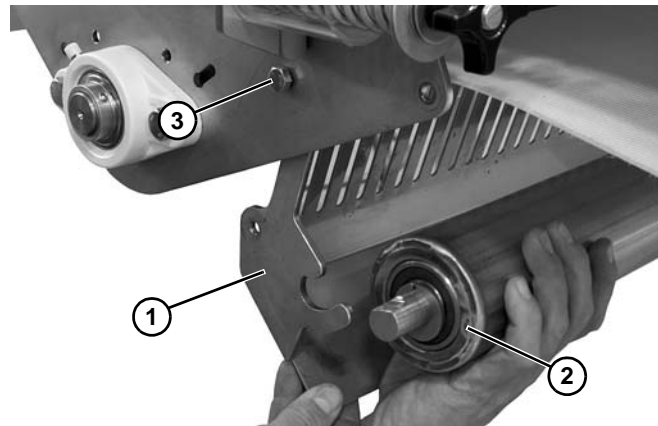

Figure 104
5. Swing idler guard assembly (Figure 104, item 1) down. Remove the idler pulley (Figure 104, item 2).